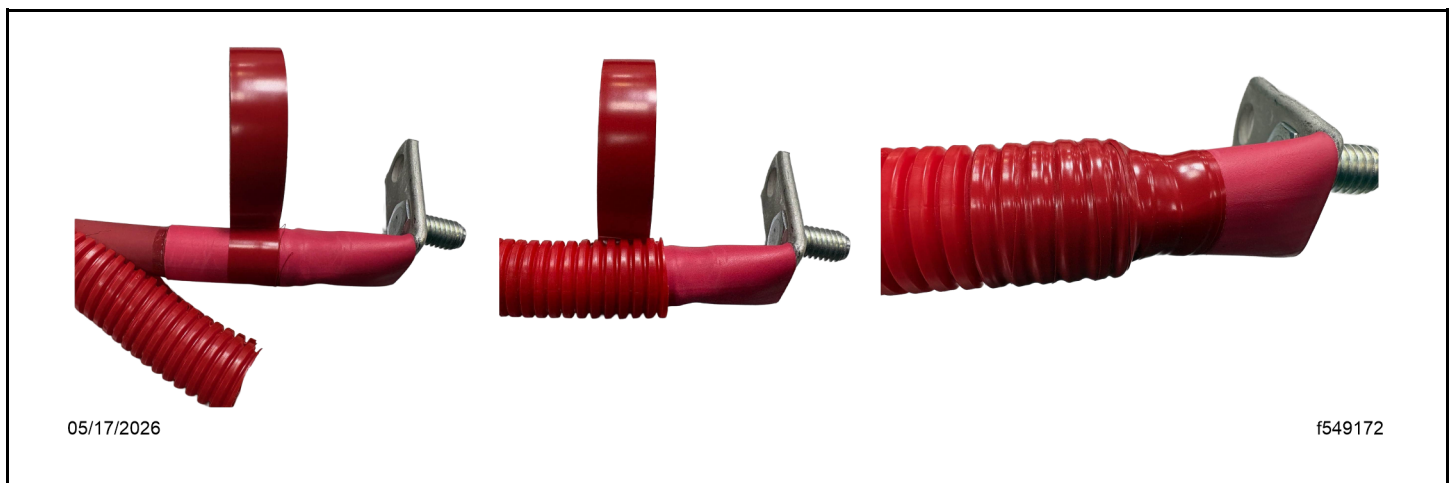

Fig 41, Installing the Convolute Cover
- d. Install the convolute cover by applying red electrical tape to cover the transition from the heat shrink to the convolute cover. See Fig. Fig. 41.